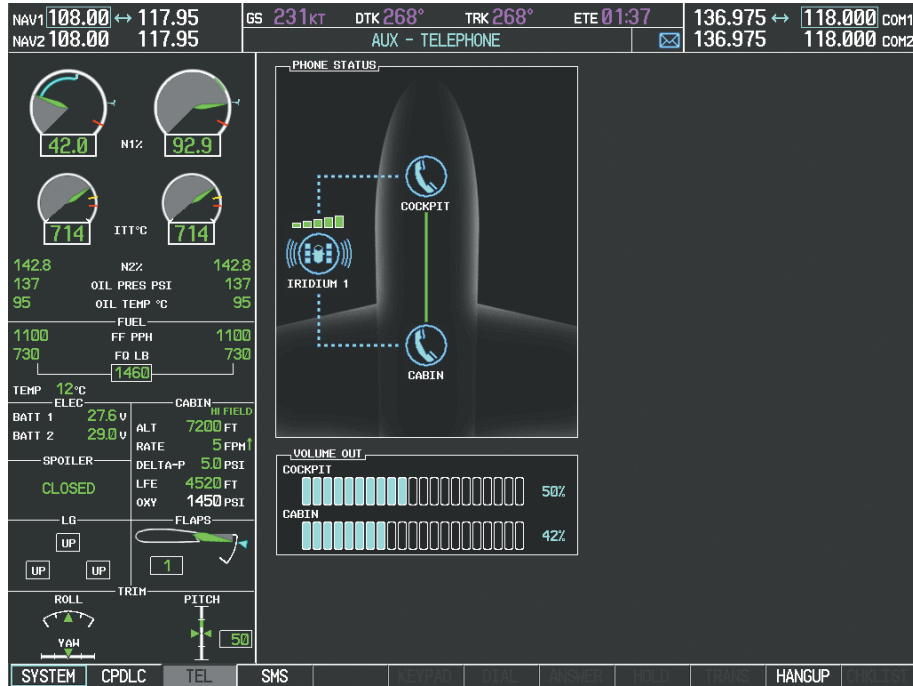

Figure 8-93 Conference in External Phone
5) Press the **ENT** Key again to place the call as shown in Figure 8-93.